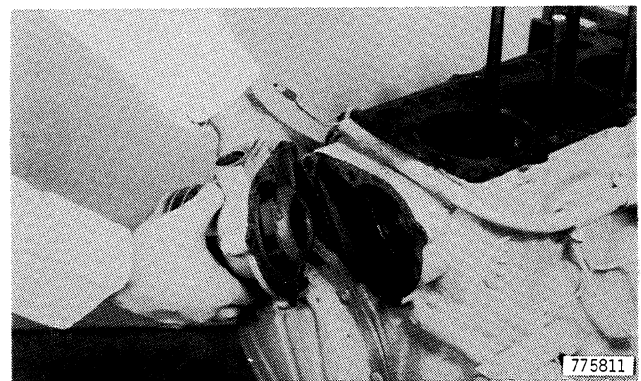

Figure 65
9. Remove the water pump, Figure 65.